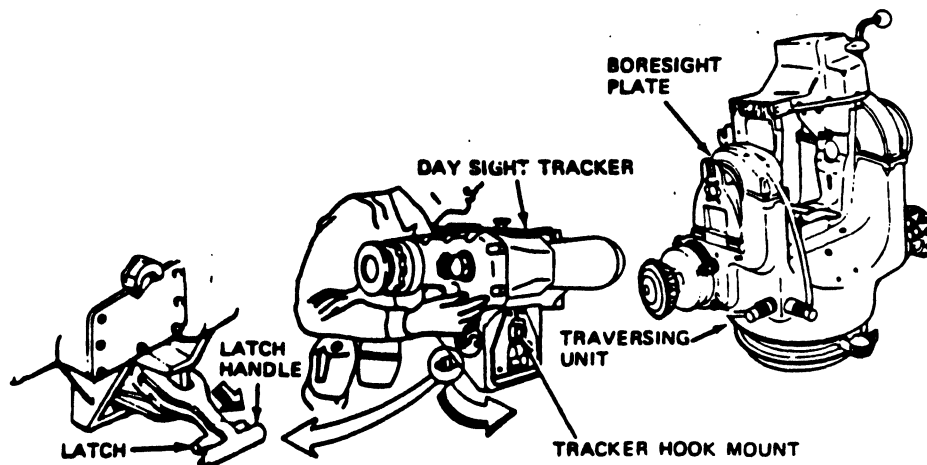

Fig 2-10. Installing the day sight tracker.
(Remove the day sight tracker with the tracker hook mount facing the traversing unit boresight plate (fig 2-10)).
Step 1. Hold the day sight tracker with the tracker hook mount facing the traversing unit boresight plate (fig 2-10).
Step 2. Press and hold the latch in towards the latch handle, push the latch handle all the way down, and release (fig 2-10).